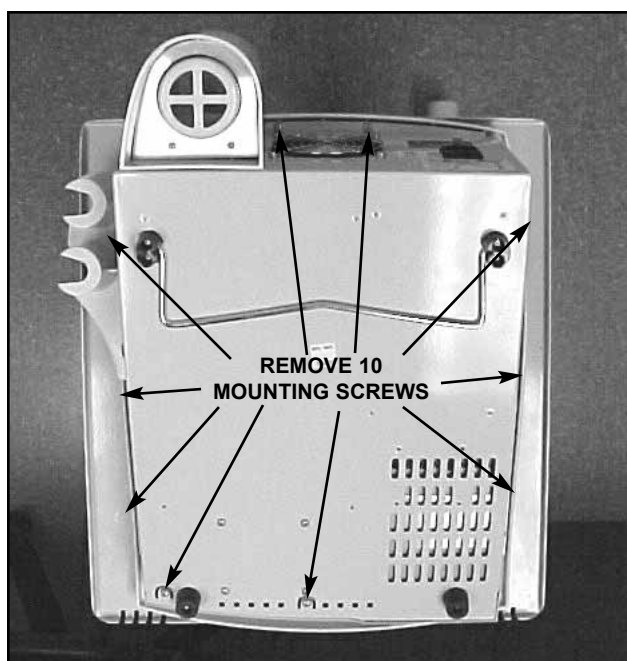

FIGURE 6.3
2. Remove the 10 mounting screws holding the top and bottom together. See Figure 6.3.